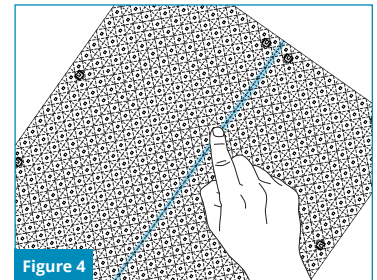

Figure 4
3. Apply a small bead of silicone to sheet and spread with fingers to all cut edges (Figure 4).